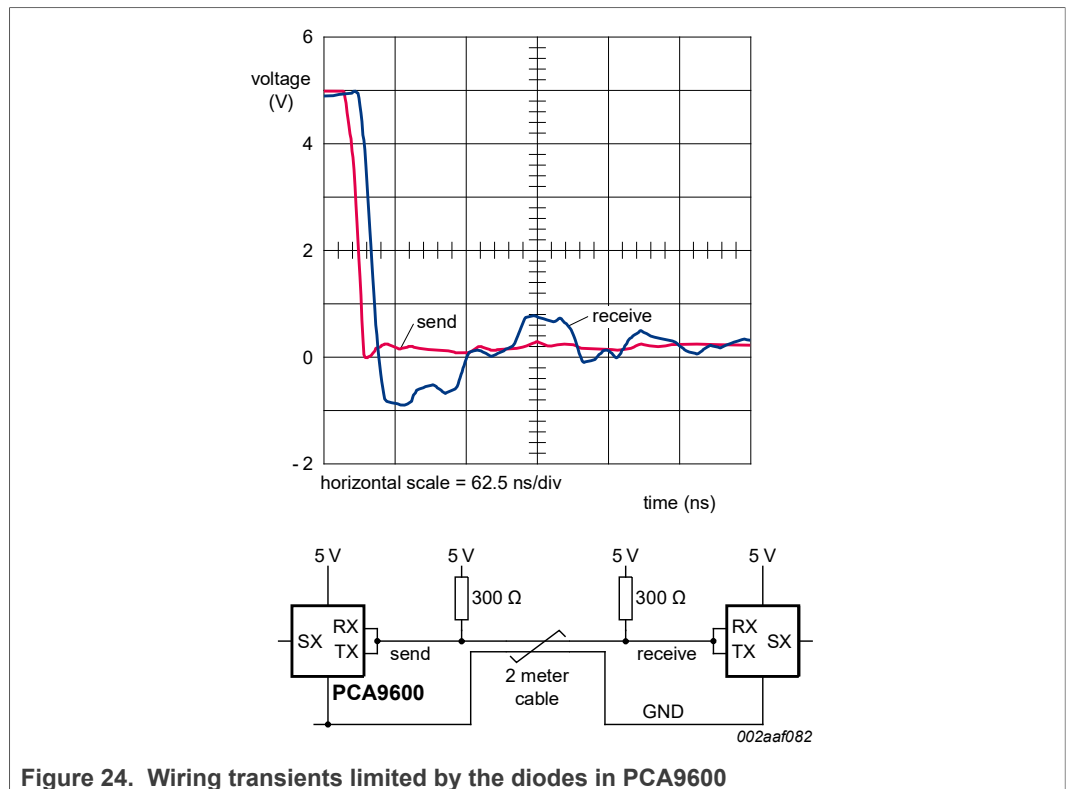

Figure 24. Wiring transients limited by the diodes in PCA9600
**Answer:** Because the cable joining the two PCA9600s is a 'transmission line' that will have a characteristic impedance around 100 Ω and it will be terminated by pull-up resistors that are larger than that characteristic impedance there will always be negative undershoot generated. The duration of the undershoot is a function of the cable length and the input impedance of the connected IC. As shown in Figure 24, the transient undershoot will be limited, by the diodes inside PCA9600, to around -0.8 V and that will not cause problems for PCA9600. Those transients will **not** be passed inside the IC to the SX/SY side of the IC.